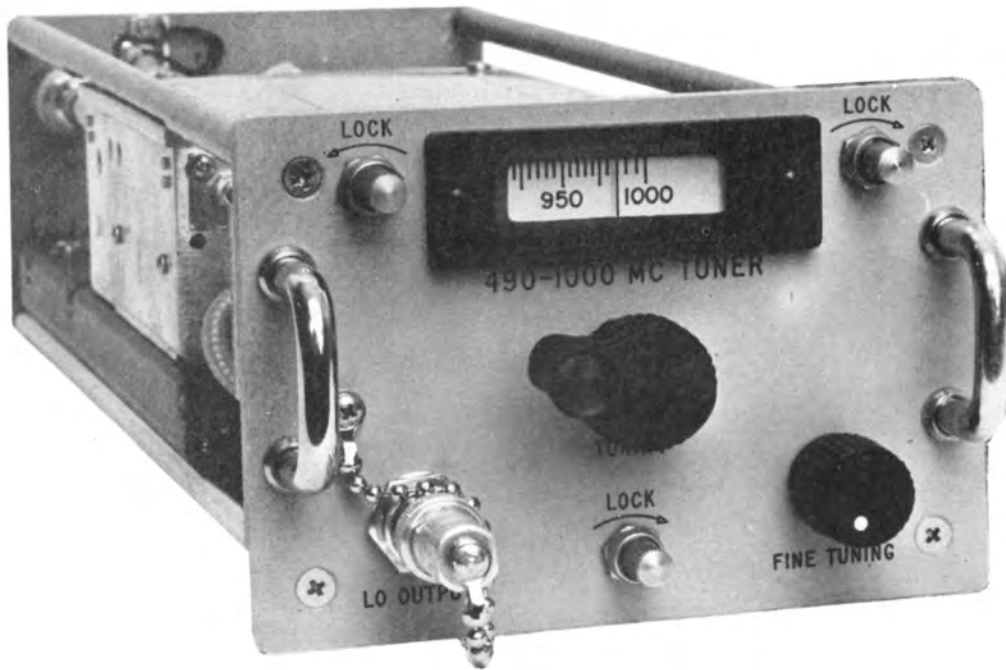

Figure 1-1. Radio Frequency Tuner TN-519/WRR and TN-520/WRR, Front View
A. RF Tuner TN-519/WRR, Figure 1-1
B. RF Tuner TN-520/WRR, Figure 1-1